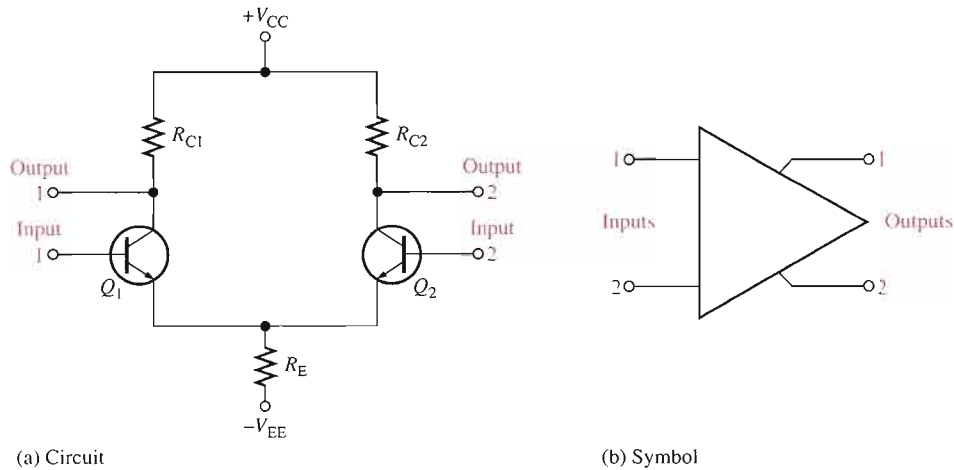

FIGURE 6–36
A basic two-stage, direct-coupled amplifier is shown in Figure 6–35. Notice that there are no coupling or bypass capacitors in this circuit. The dc collector voltage of the first stage provides the base-bias voltage for the second stage. Because of the direct coupling, this type of amplifier has a better low-frequency response than the capacitively coupled type in which the reactance of coupling and bypass capacitors at very low frequencies may become excessive. The increased reactance of capacitors at lower frequencies produces gain reduction in capacitively coupled amplifiers.
► **FIGURE 6–35**
A basic differential amplifier circuit and its symbol are shown in Figure 6–36. Notice that the differential amplifier has two outputs.
The following discussion is in relation to Figure 6–37 and consists of a basic dc analysis of the diff-amp's operation. First, when both inputs are grounded (0 V), the emitters are at -0.7 V, as indicated in Figure 6–37(a). It is assumed that the transistors are identically matched by careful process control during manufacturing so that their dc emitter currents are the same when there is no input signal. Thus,
This condition is illustrated in Figure 6–37(a).
Next, input 2 is left grounded, and a positive bias voltage is applied to input 1, as shown in Figure 6–37(b). The positive voltage on the base of Q_1 increases I_{C1} and raises the emitter voltage to
The amplifier in Figure 6–41 has a differential voltage gain of 4200 and a CMRR of 25,000. For the same single-ended and differential input signals as described in the example: